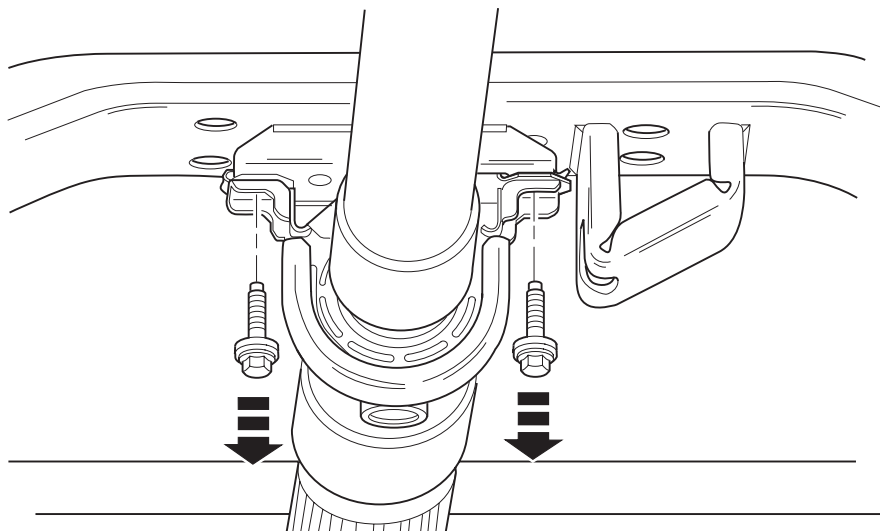

FIGURE 3 – REMOVE BOLTS SHOWN
1. Position the #1B cross member with the shield/skid plate mounting holes on the bottom side of the crossmember facing the ground, install the #1B crossmember support nuts and bolts. (Refer to Figure 3.)